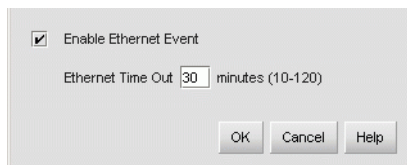

Figure 2-60 Configure Ethernet Events Dialog Box
2. At the *SANavigator* or *EFCM* main window, select the *Ethernet Event* option from the *Monitor* menu. The *Configure Ethernet Events* dialog box displays (Figure 2-60).